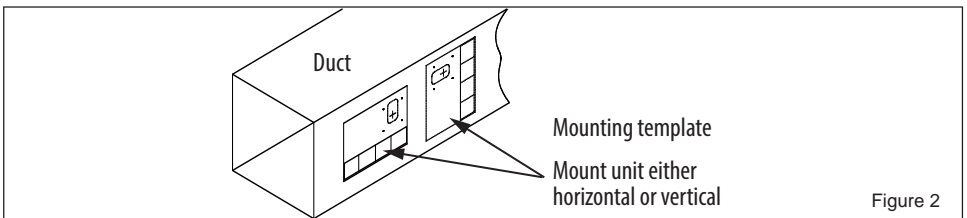

Figure 2
- Apply supplied mounting template to air duct in either a vertical or horizontal position (Figure 2).